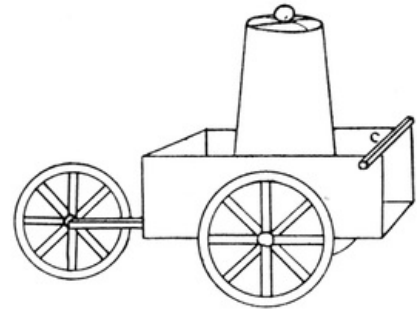
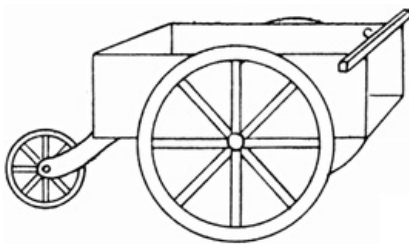
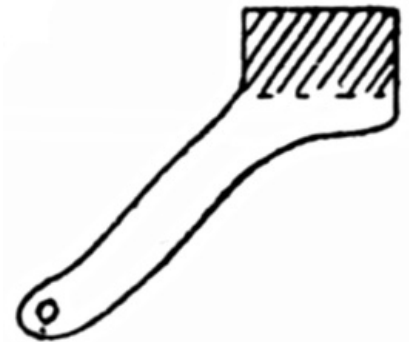

FIG. 88
FIG. 89
FIG. 90
**A Milk-cart** (Fig. 88). The can is a cork covered with silver paper, which is used to cover chocolates, etc. The paper can be screwed into a little knob at the top. In Fig. 88 the wheels are the same size. Two are fastened to a match for the axle, which is then glued underneath the box; the third wheel is glued between two matches, which are fastened underneath the box. In Fig. 89 the side wheels are larger and a cardboard set of shafts is made for the small front wheel.
Fig. 90 shows the shape of these shafts. The shaded portion is bent at right angles to the shaft and glued under the box. The small wheel can be gummed between these shafts, or, if the shafts are fastened on with a space between them, and holes made in each end, a piece of match stick, on which the small wheel is mounted, can be passed through the holes. A match is glued across the back of the box (Fig. 88) to form the bar by means of which the cart is pushed along.